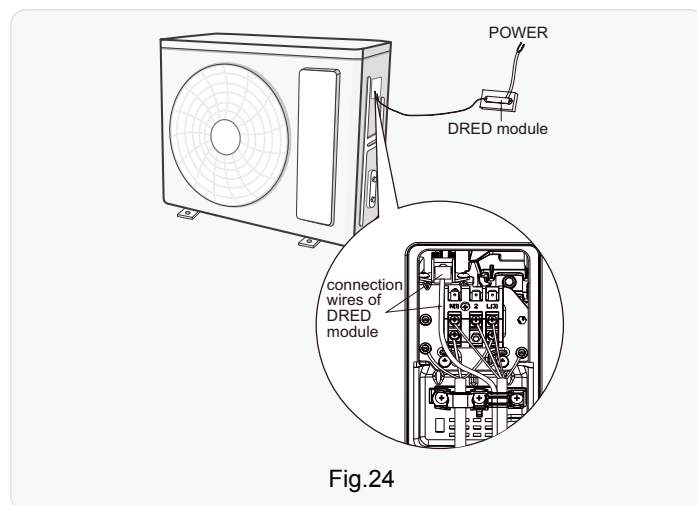

Fig.24
• The connection wire of DRED module and the wire connecting indoor unit and outdoor unit shall share a same wire clip. Another wire clip is used to secure the power cord of outdoor unit (As show in Fig.24).